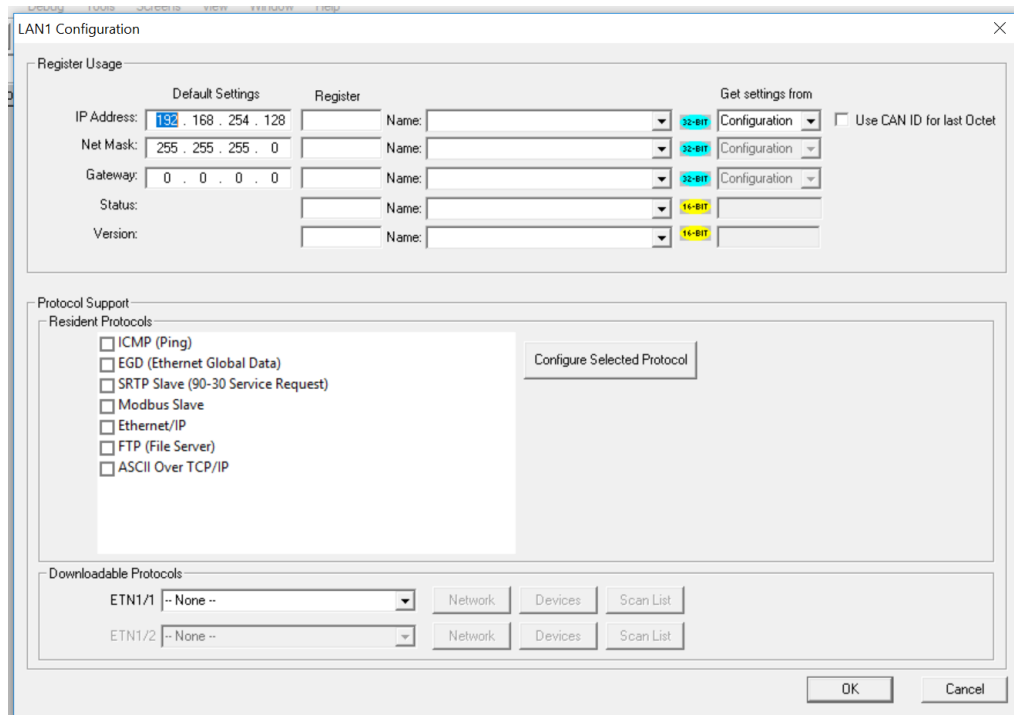

Figure 8.3 - Ethernet Module Configuration
2. Click the Config button to the right of LAN1, revealing the Ethernet Module Configuration dialog as shown in Figure 8.3